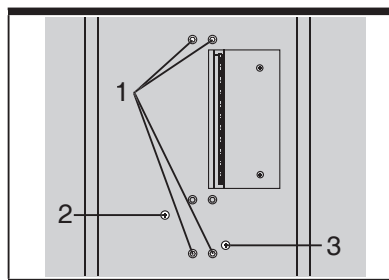

Fig 14
8) If the front and rear clearance are not identical, remove the mitre gauge, loosen four screws (1) and carefully grasp the saw blade. Make necessary correction until measurements taken at the front and rear are identical. Tighten the four screws (1) (See fig. 14).
- 4) If the saw blade is not at 90°, loosen the saw blade tilt lock handle. Adjust the screws (2) a few turns and move the saw blade tilting mechanism until the blade is at 90° to the table (See fig. 14).
- 4) If the saw blade is not at 45°, loosen the saw blade tilt lock handle. Adjust the screws (3) a few turns and move the saw blade tilting mechanism until the blade is at 45° to the table (See fig. 14).